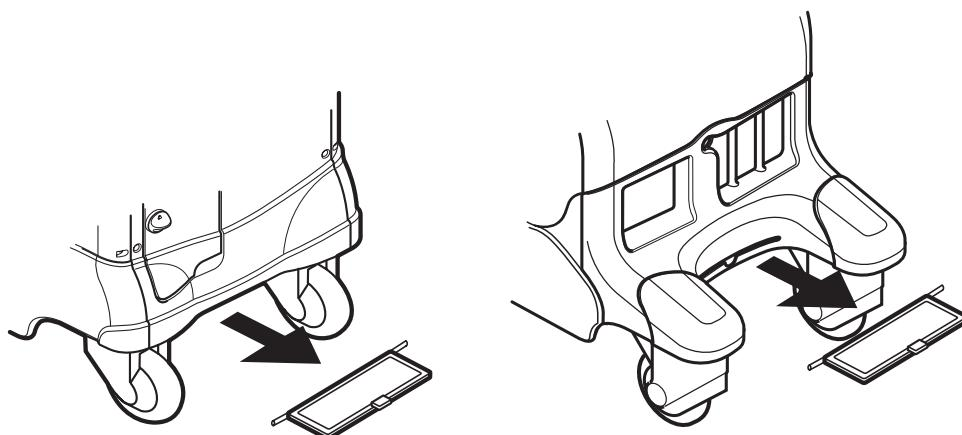

Figure 8-78 Removing the Air Filters
- 1.) Remove Air Filter as illustrated below. Refer to Figure 8-78.